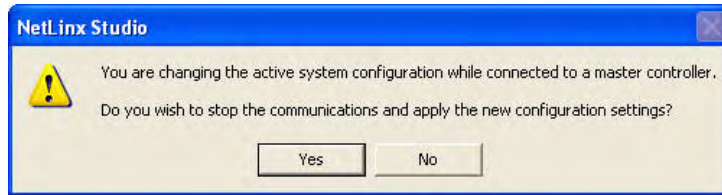

FIG. 87 NetLinx Studio - warning dialog
10. When the *Master Communication Settings* dialog is closed after changing settings, NetLinx Studio prompts you with the following warning dialog (FIG. 87):